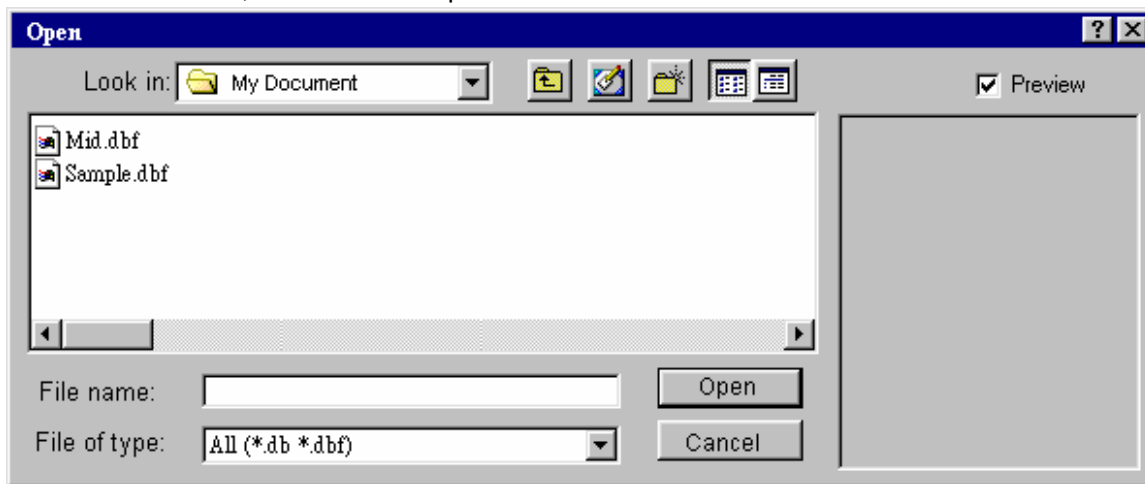

Fig.16.1
1. On the Database menu, click Open DBF file. (refer to Fig.16.1)